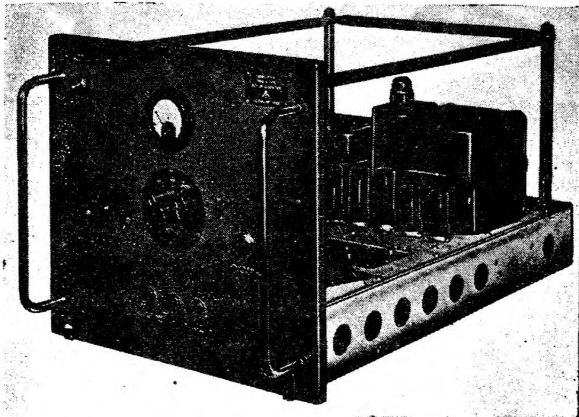

Fig. 1. Amplifier Type A.3719, general view
3. Both amplifiers are of standard AIR MINISTRY "information generator" chassis construction, Type A.3719 forming a part of rack assembly Type 318 and Type A.3720 of rack assemblies Type 320 and 321. Rack assembly Type 318 is located in the apparatus room of the remote transmitter well and the remaining two racks in the radar office. On GCI the remote site is normally about 4,000 yards distant from the operations block. General views of the amplifiers are shown in fig. 1 and 2.